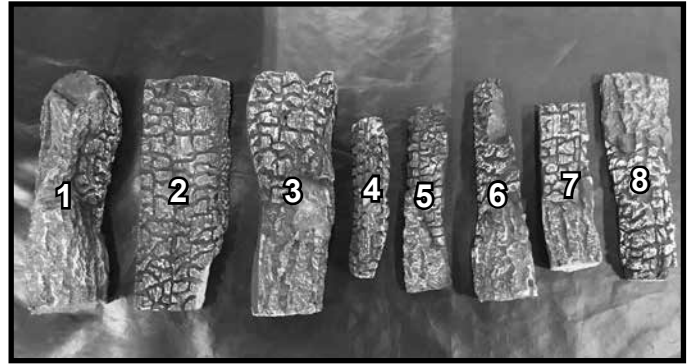

Figure 25. Log Identification - EXCURSION-III, TRILLIANT35IN
**NOTICE:** To simplify the installation process, use Figure 25 to positively identify each individual log before beginning installation.